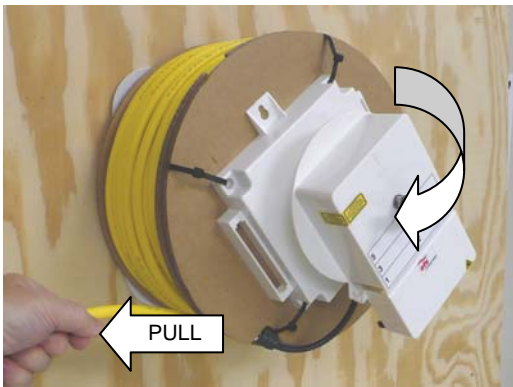

Fig.4
5. - Unreel the entire length of ribbon cable from the Combiner to the V-Linx FDH (Fiber Distribution Hub). Refer to Figure 4.